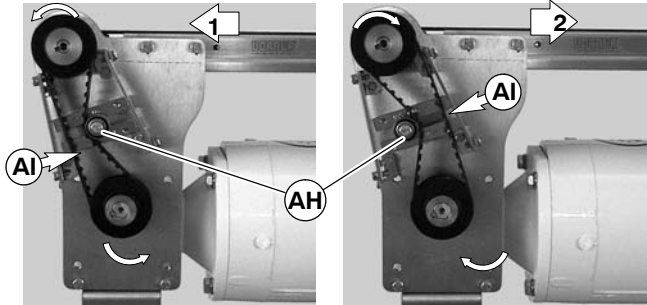

Figure 34
- Depending on direction of conveyor belt travel (1 or 2 of Figure 34), position belt tensioner (AH) as shown.